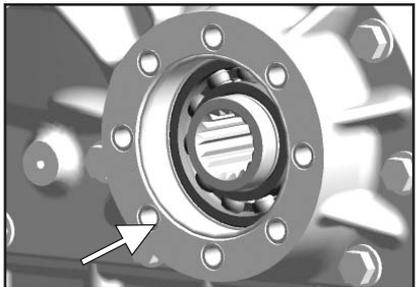

Fig. 3
4. Install O-Ring, furnished with P.T.O., (Fig. 3). To prevent damage to O-Ring make sure it is installed in groove as shown.